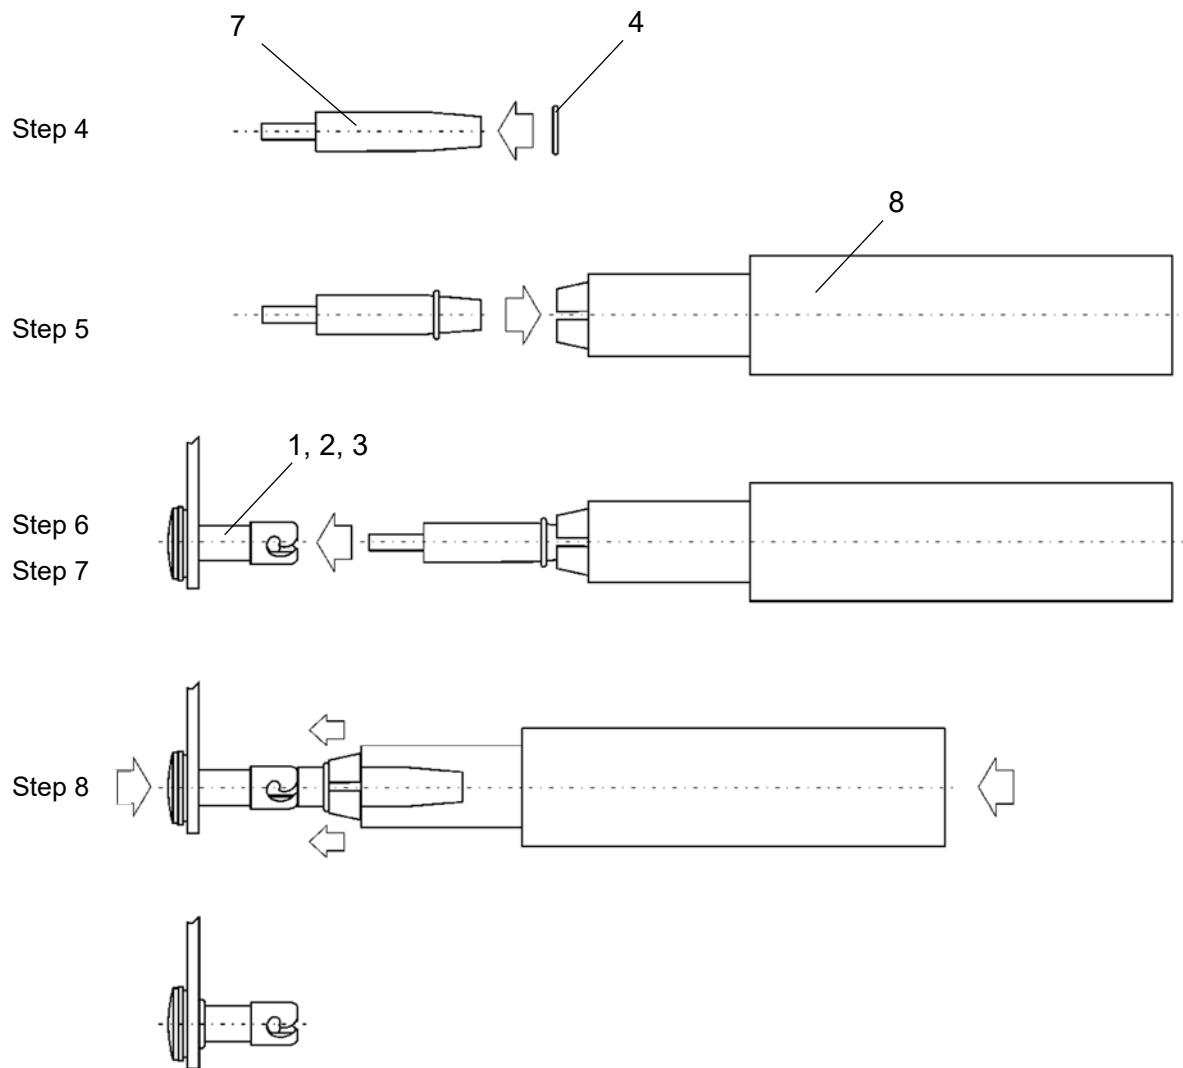

Figure 3-22: Install Quarter-Turn Fastener (2)
4. Set circlip (4) on mounting tool 2 insert (7). See Figure 3-22.
5. Attach mounting tool insert to mounting tool (8).
6. From the outside of the dry section service cover: Put fastener assembly (1), (2), (3) through hole of service cover (5).
8. Slide circlip (4) on fastener shaft by pressing mounting tool no. 2 towards the fastener. Hold up fastener from the cover outside.